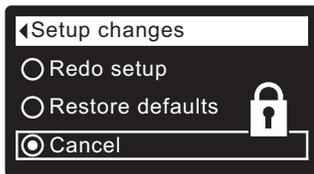

FIG. 34
8. Press the RIGHT (▶) button. A flashing padlock icon will appear, as shown in Figure 34.
- 1-7. Go to the **Setup changes** screen (Figure 34) by following Steps 1-7 at left.